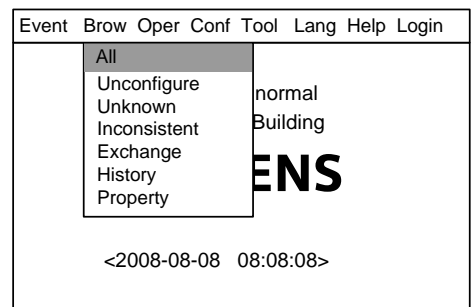

Fig.12-2
2. Press “→” to select “Brow” submenu (Fig. 12-2). Press “↓” to select the item which contains the equipment to be disabled, and then press “OK”.